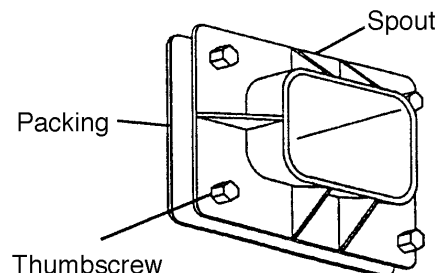

Fig. 9
- 7) Remove the thumbscrews, spout and packing. See Fig 9.